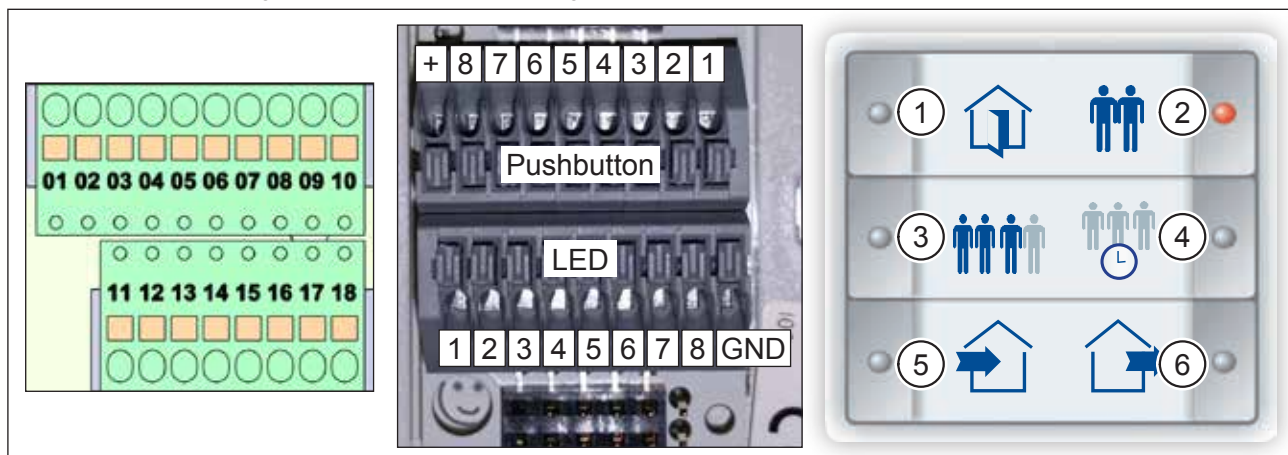

Fig. 29: Terminal blocks on ventilation unit, terminal blocks on InControl pushbutton sensor, insert sheet
- ▶ After wiring, place the insert sheet (Fig. 29) in the InControl pushbutton sensor.